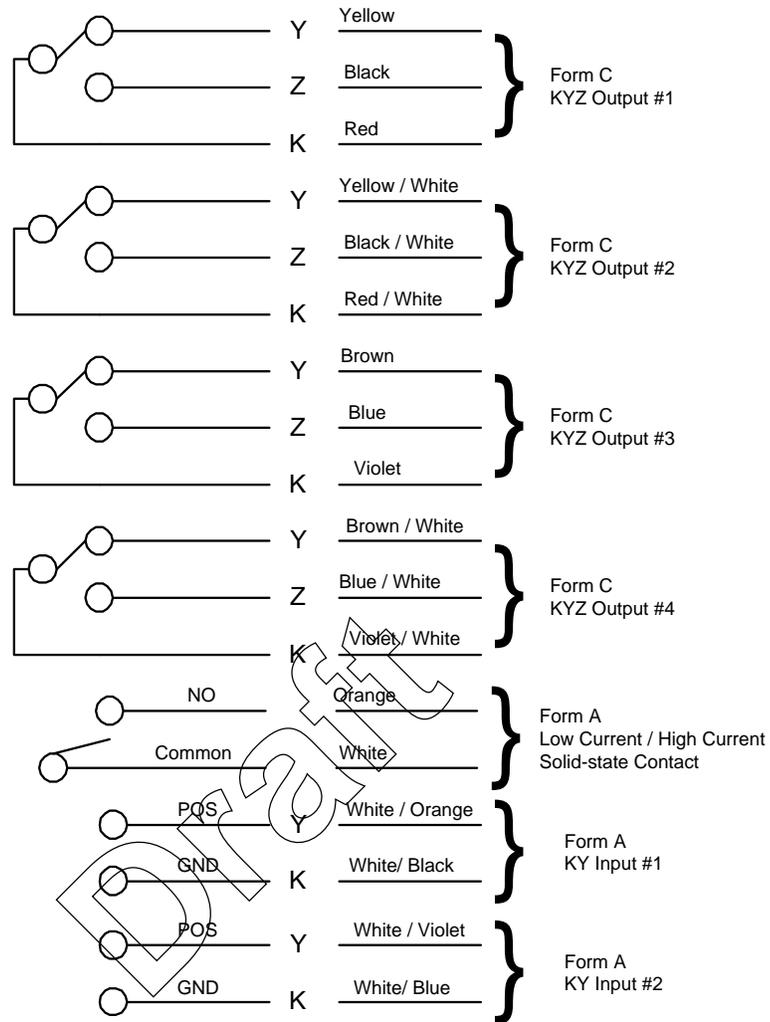

Figure 1.9 Input/Output Option 5
- Option 5 has four Form C KYZ outputs, one Form A low-current solid-state contact output, and two Form A KY pulse inputs. (See Figure 1.9 on page 1-10.)